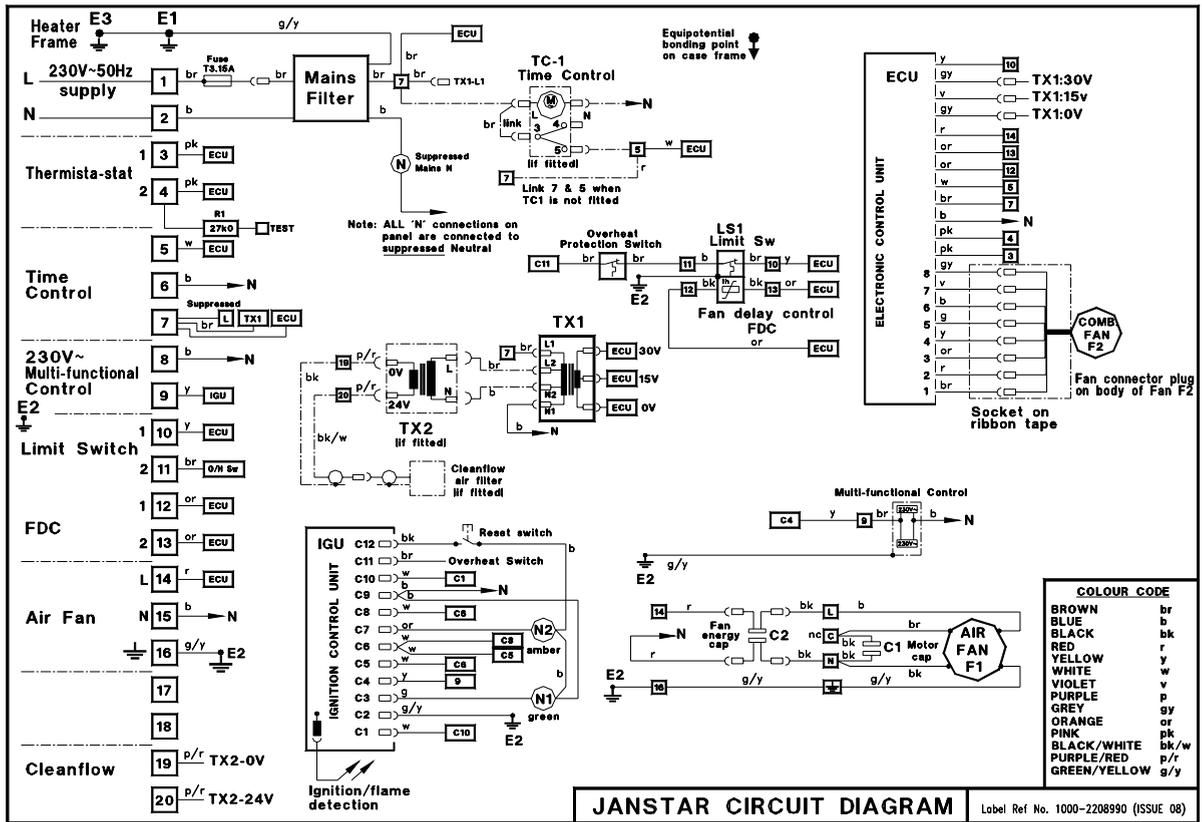

Fig. 7 JANSTAR functional flow circuit diagram
- 9.5.8 Refitting or replacement is in reverse order, referring to Fig. 7 for correct wiring.